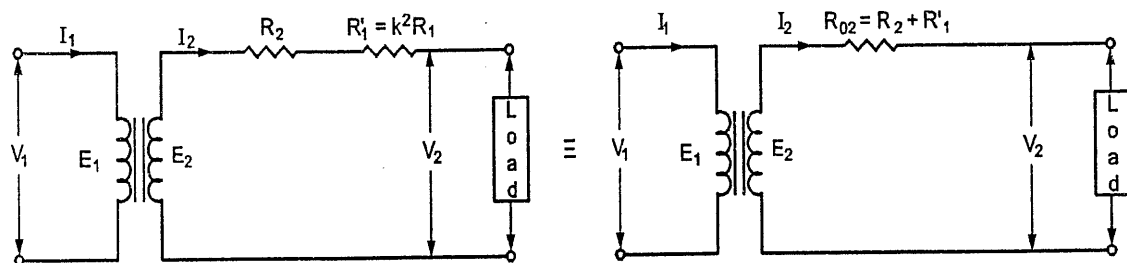

FIG. 3.22 : EQUIVALENT RESISTANCE REFERRED TO THE SECONDARY SIDE
- Let the primary resistance R_1 be transferred to the secondary and the transferred resistance is indicated by R_1' . This transferred resistance R_1' is called equivalent resistance of primary as referred to the secondary as shown in Fig. 3.22.
- Fig. 3.22 shows the diagram referring the primary resistance to secondary side.